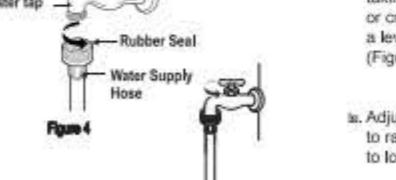

Figure 4
- Connect the water supply hoses to the HOT and COLD water faucets making sure that the rubber seal is in proper position. (Figure 4)